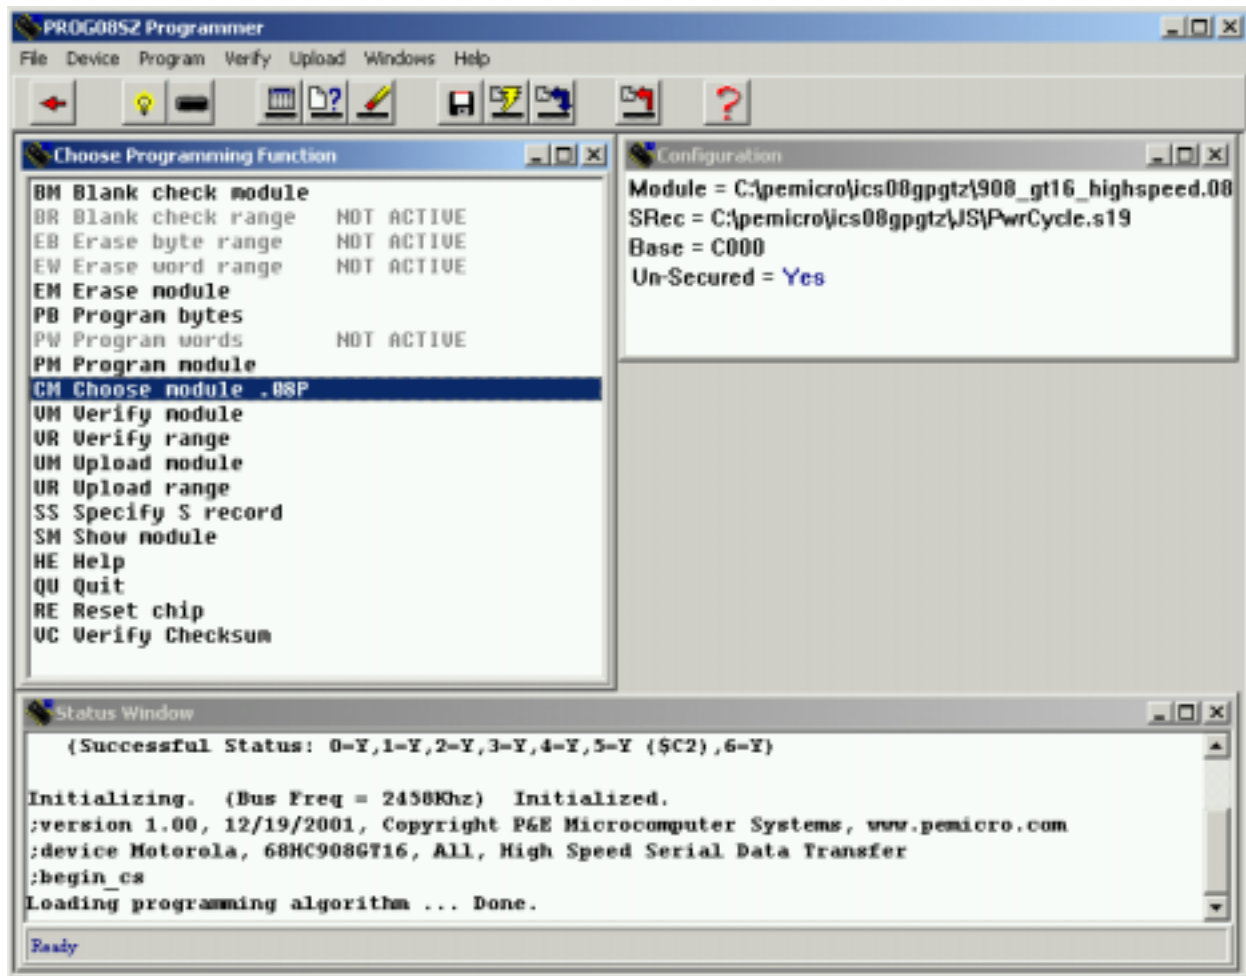

Figure 12. P&E's PROG08SZ Programmer Window
11. Select appropriate algorithm for the part (908_gt16_highspeed.08p in Figure 12).
12. Double-click on Erase module (see Figure 12). (Flash cannot be programmed unless first erased.)